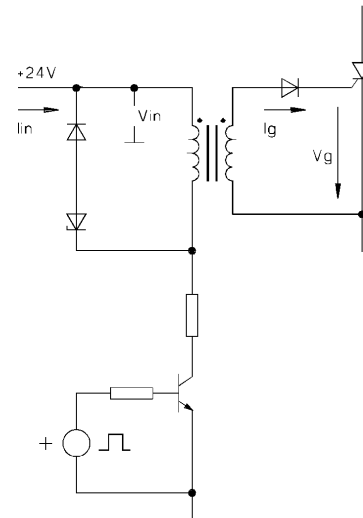

Fig. 8 Trigger circuit with SKPT25a3
1. The first example: simple trigger circuit with current limiting resistor in the primary side is shown in Fig. 8